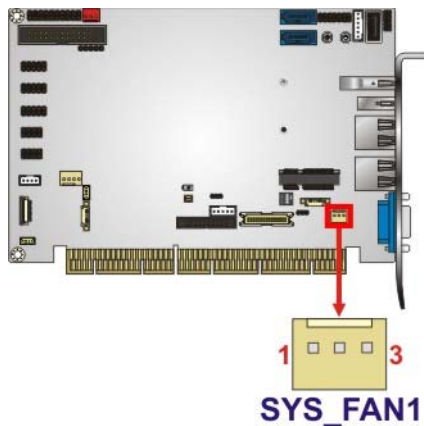

Figure 3-9: System Fan Connector Locations
- CN Location:** See **Figure 3-9**